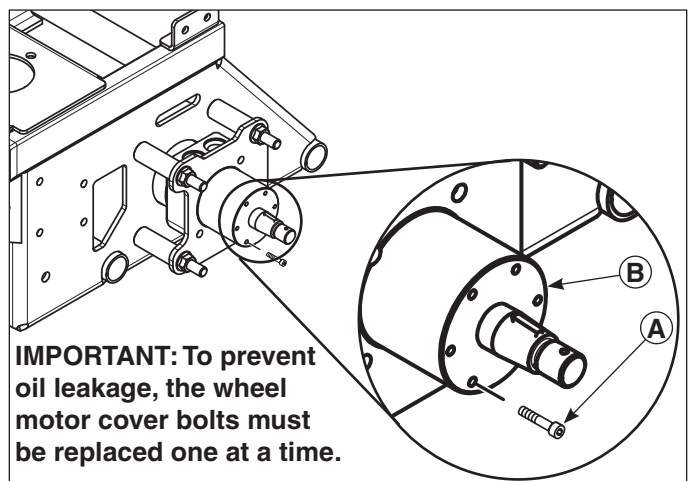

Figure 6. Replacing the Wheel Motor Cover Bolts
10. Refer to Figure 6. Inspect the wheel motor cover plate for any signs of leakage. If there is no evidence of leakage or just a light film of oil around the wheel motor cover plate, skip to step # 12. **If there is evidence of oil leakage (oil is dripping from the wheel motor cover plate) order a new wheel motor (part number # 5101583) from your normal parts source.**
12. Replace the six (6) wheel motor cover Torx T-30 bolts (A, Figure 6) securing the wheel motor cover plate (B) one at a time with the new longer socket head cap screws provided. **Add Loctite 272 or Permatex Red thread locker to the tip of the capscrew and torque the new longer socket head capscrews to 100 in/lbs. (11,3 Nm).** (Repeat until all six bolts are removed and replaced with the newer bolts.)